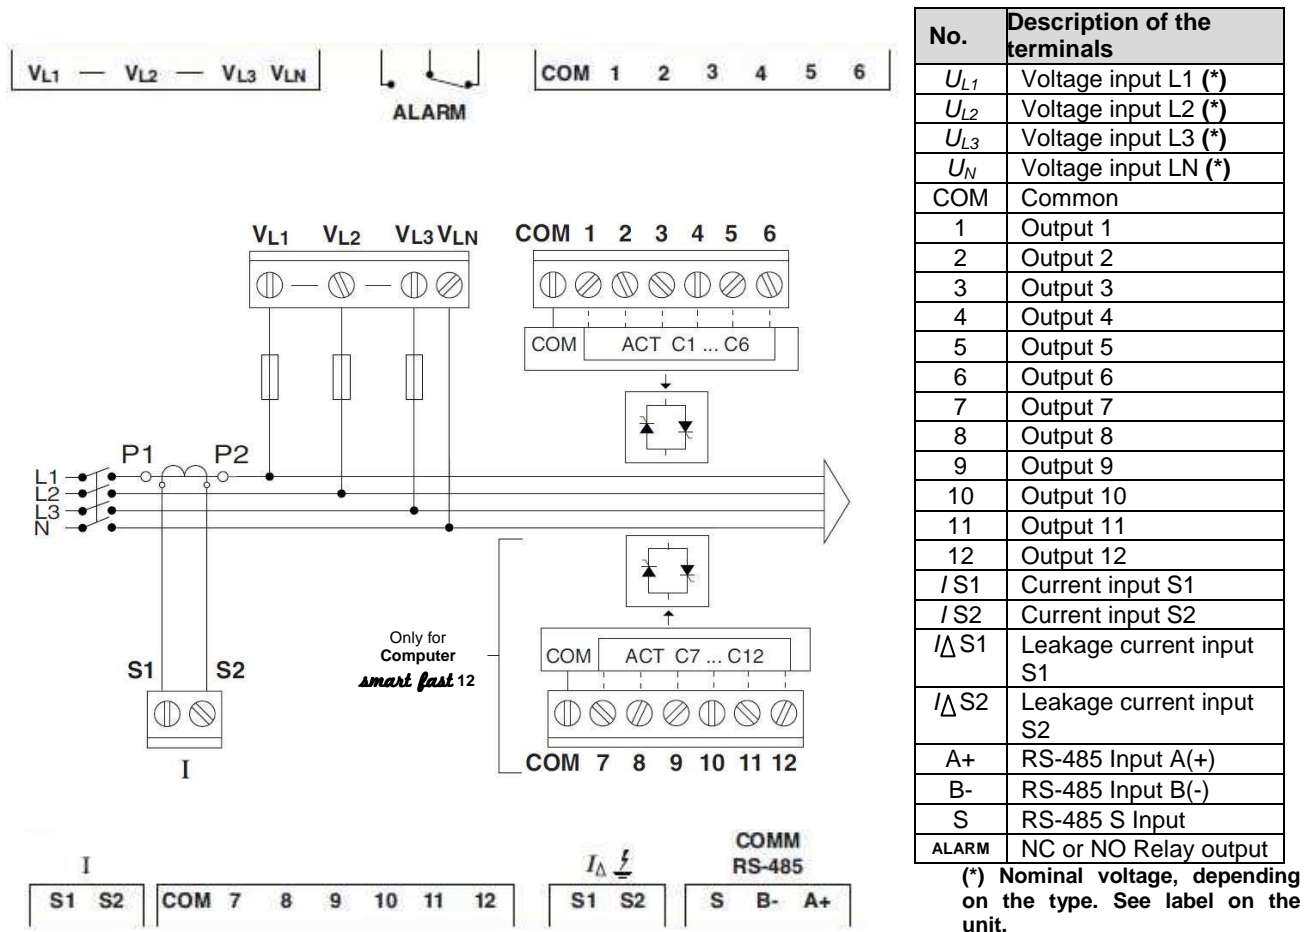

Fig. 2.2.- Computer Smart Fast 6/12 Connection diagram
The current transformer (CT) should preferably be connected to phase L1, while the voltage connections should be connected to phases L1, L2 and L3 (see diagram in Fig. 2.2). Connections P1, P2, S1 and S2 shown on the said diagrams should be respected. In case the connection layout mentioned above is not respected, the phase must be adjusted, following the procedure described in section 5.5.